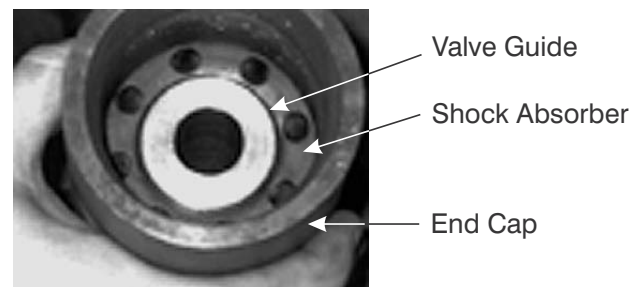

Figure 8-35. End Cap Components
Disassembly destroys the Shock Absorber. DO NOT remove the Shock Absorber (9) and Valve Guide (7) from End Cap (8) unless replacement is necessary. Refer to Figures 8-35 and 8-36.